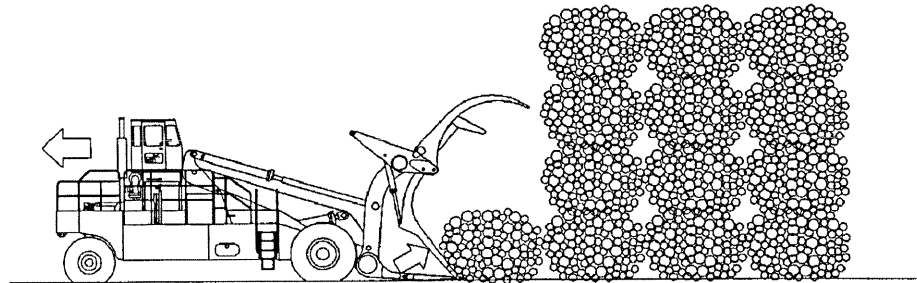

Fig 4-18
2. To place the bundle, set the bundle in position, raise the auxiliary holddown arms and push forward with the kickoff arms while backing up. The bundle will slide off of the tines. See Fig. 4-18